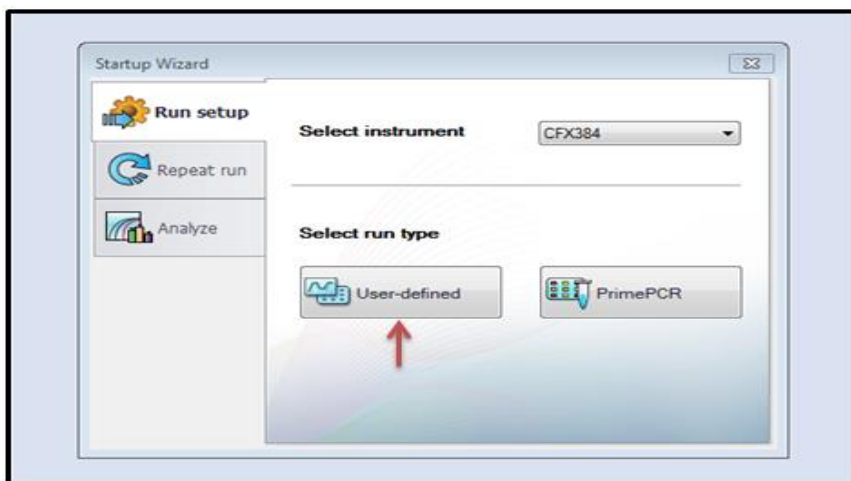

Figure 23: Selecting run type
- 5.2. Select the correct instrument type (CFX 384) and the run type as 'User-defined as shown in the Figure 23 below.